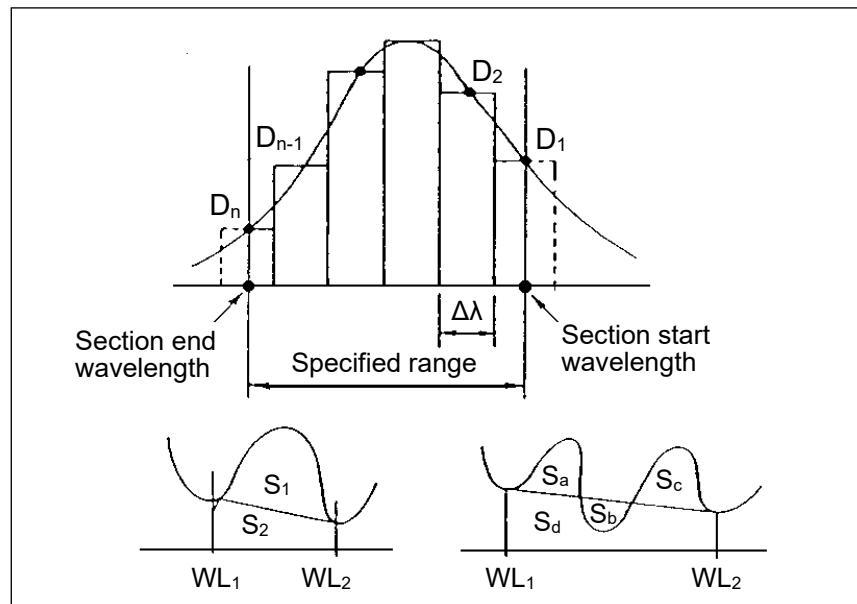

**Fig. 5-34**
- 1) Click the **Start** button (refer to (1) in Fig. 5-34). Move the trace cursor to a desired start wavelength on the spectrum (refer to (2) in Fig. 5-34), and then click the right button of the mouse.
- 2) Click the **End** button (refer to (3) in Fig. 5-34). Move the trace cursor to a desired end wavelength on the spectrum (refer to (4) in Fig. 5-34), and then click the right button of the mouse.
- 3) Click the **Calculate** button (refer to (5) in Fig. 5-34). The result of calculation will be displayed.